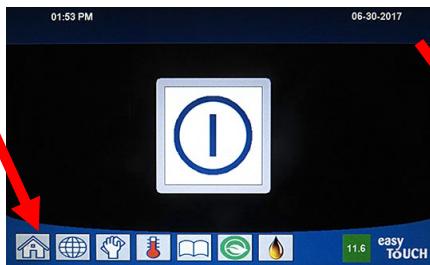

Figure 5
16. Once the fryer reboots, **WAIT FIVE (5) MINUTES** before proceeding to the next step.
17. Press the **"HOME"** button on the (see Figure 5).
23. Press the "HOME" button (see Figure 5 on previous page) when finished.